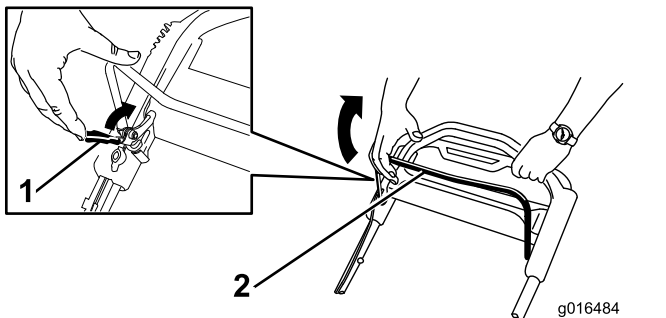

Figure 17
1. Pull the blade-control-bar lock back to the blade-control bar (Figure 17).
2. **Slowly** pull the blade-control bar back to the handle (Figure 17).